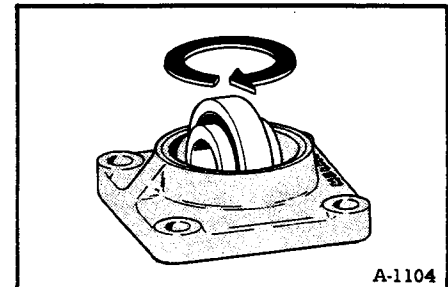

Fig. 58 Checking Housing Tolerance
1. Place a new bearing vertically into the housing. You should be able to turn it freely in the housing (Figure 58). If you can't, replace the housing with a new one.